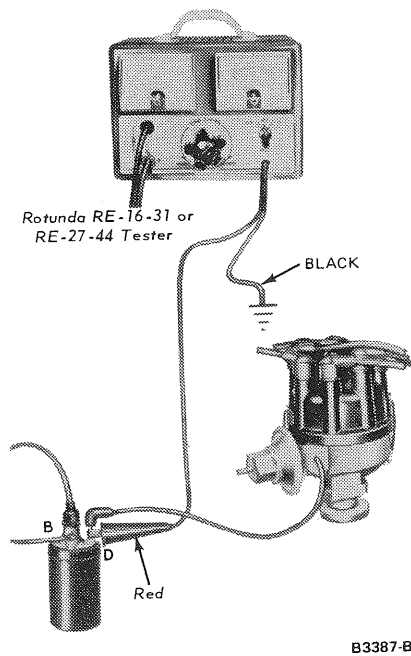

FIG. 5 Coil-to-Ground Test
1. Connect the voltmeter leads as shown in Figure 5.